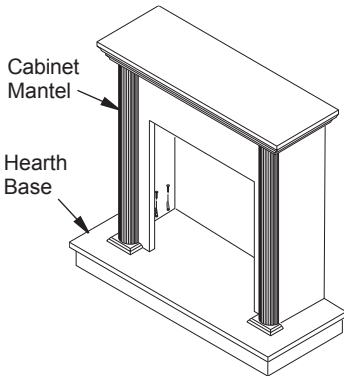

Figure 13 - Installing Cabinet Mantel onto Hearth Base
5. Center cabinet mantel on hearth base (see Figure 13, page 13). Make sure mantel is flush against wall and centered left to right on base.